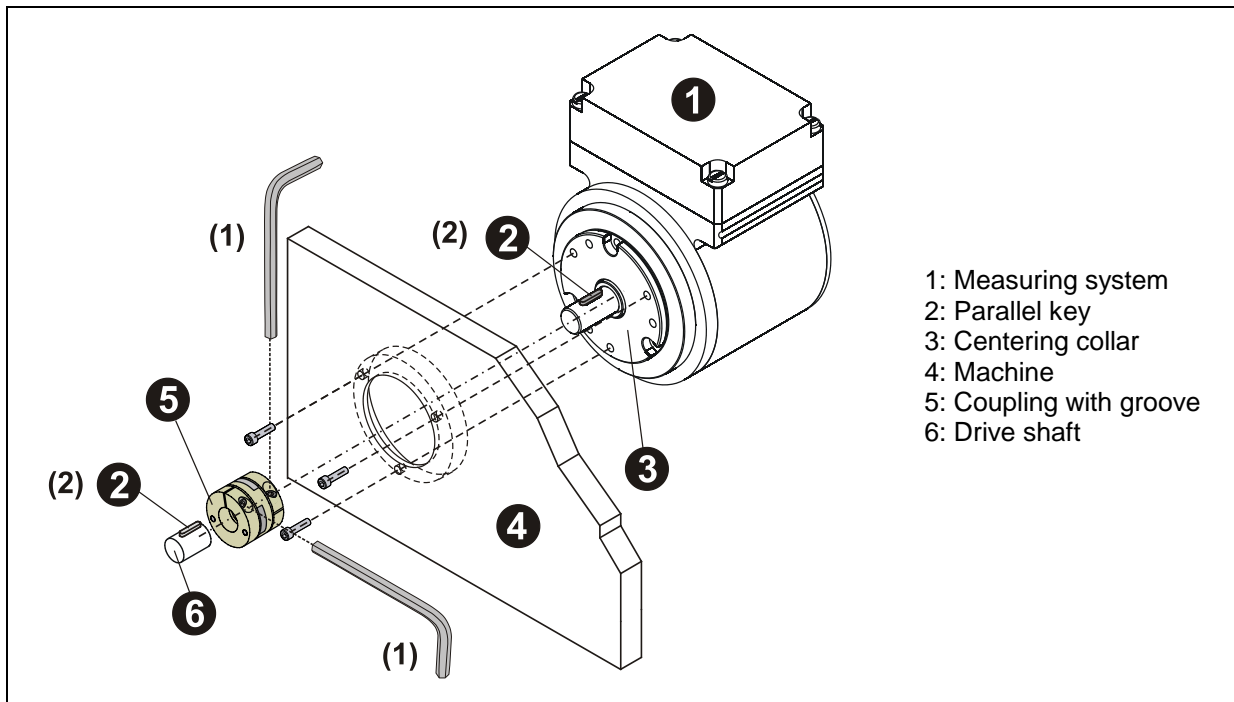

Figure 1: Flange installation
- Axial slipping of the measuring system on the drive shaft must be prevented by the coupling fixing, see Figure 1, (1).
- Radial slipping of the measuring system on the drive shaft must be prevented by means of form closure, using a parallel key / groove combination (Figure 1, (2)); a coupling with groove must be used for this purpose.